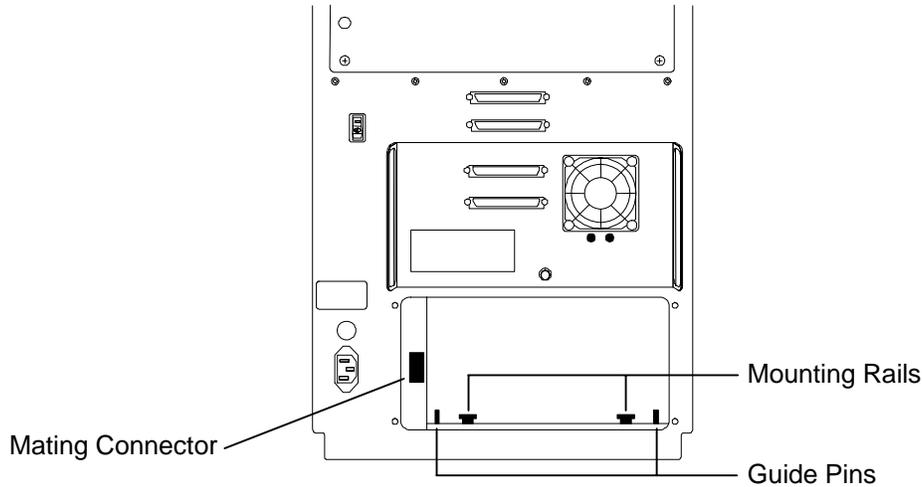

Figure 5-14 Model 6220 - Rear View
6. Hold the Tape Drive Assembly right side up and place it on the Mounting Rails between the Guide Pins. Turn the Thumbscrew Latch ½-turn counterclockwise and hold it in that position, then gently slide the Tape Drive Assembly all of the way into the TLS (Figure 5-14).